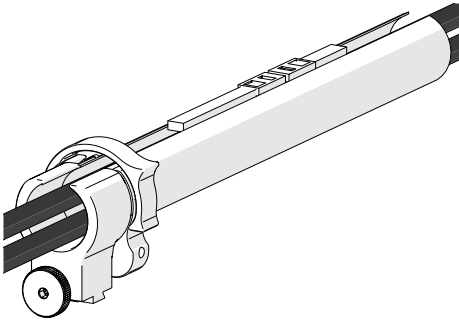

Fig. 55 - Zip opposite end
3. Once the cable is placed the entire length of tube, bring the zipper from the tubes opposite end, meeting at any point in the middle (Fig. 55).